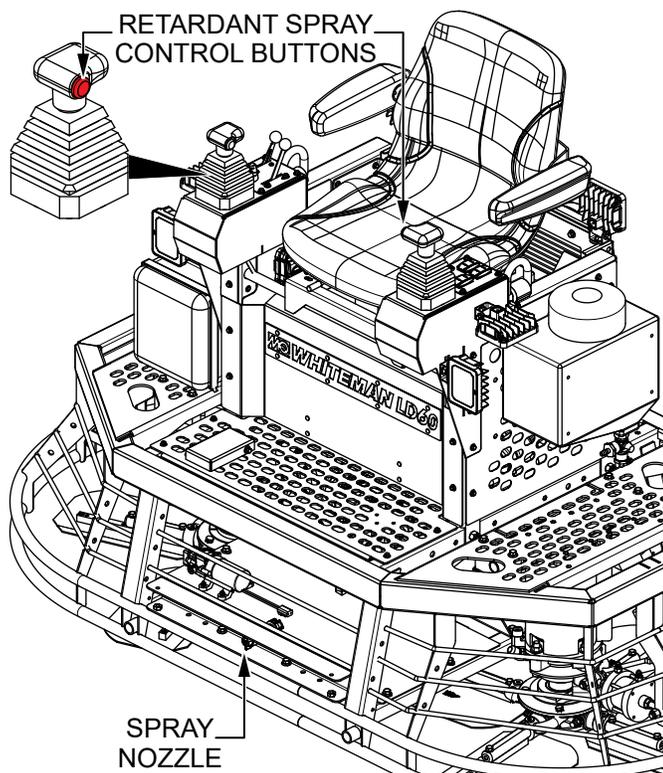
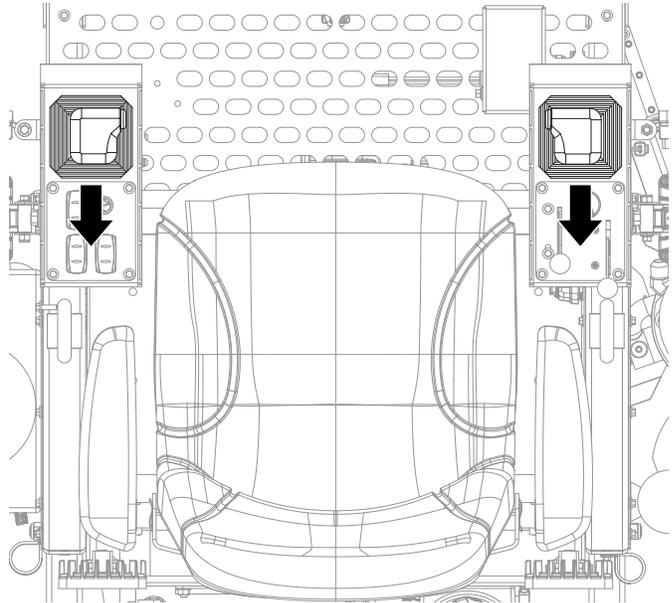

Figure 29. Retardant Spray Control Buttons
Figure 30. Joysticks (Reverse)
8. Use the **left- and right-hand retardant spray control buttons** (Figure 29) to test the operation of the retardant spray system. Pull both the left and right joysticks **backward** (Figure 30) and repeat steps 3–4 while substituting the word *reverse* for *forward*.